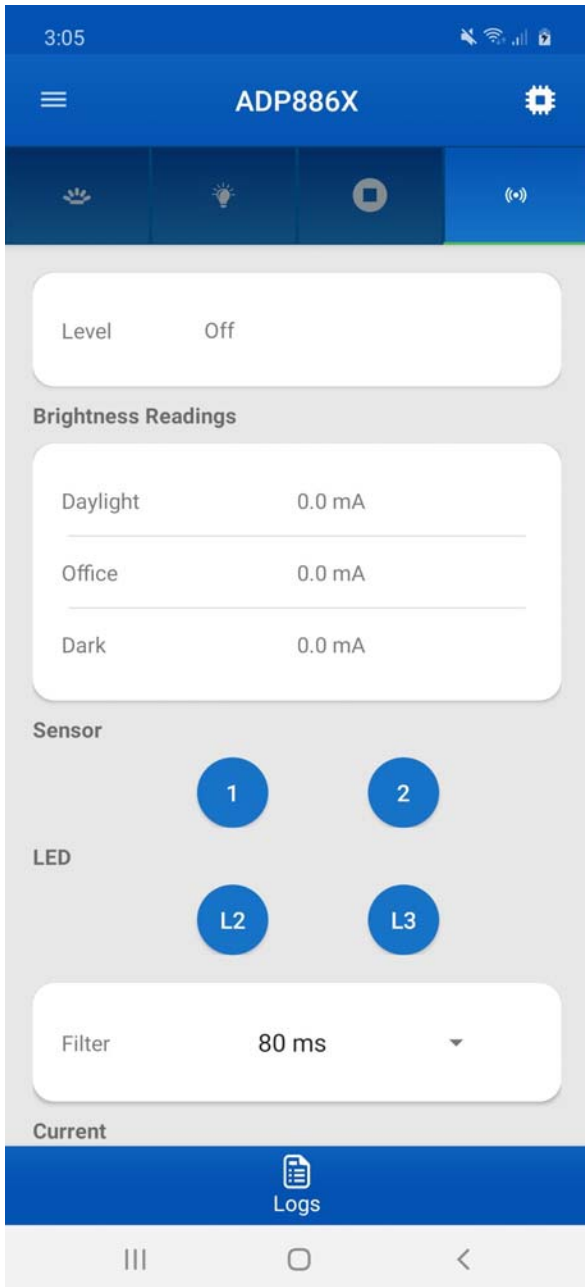
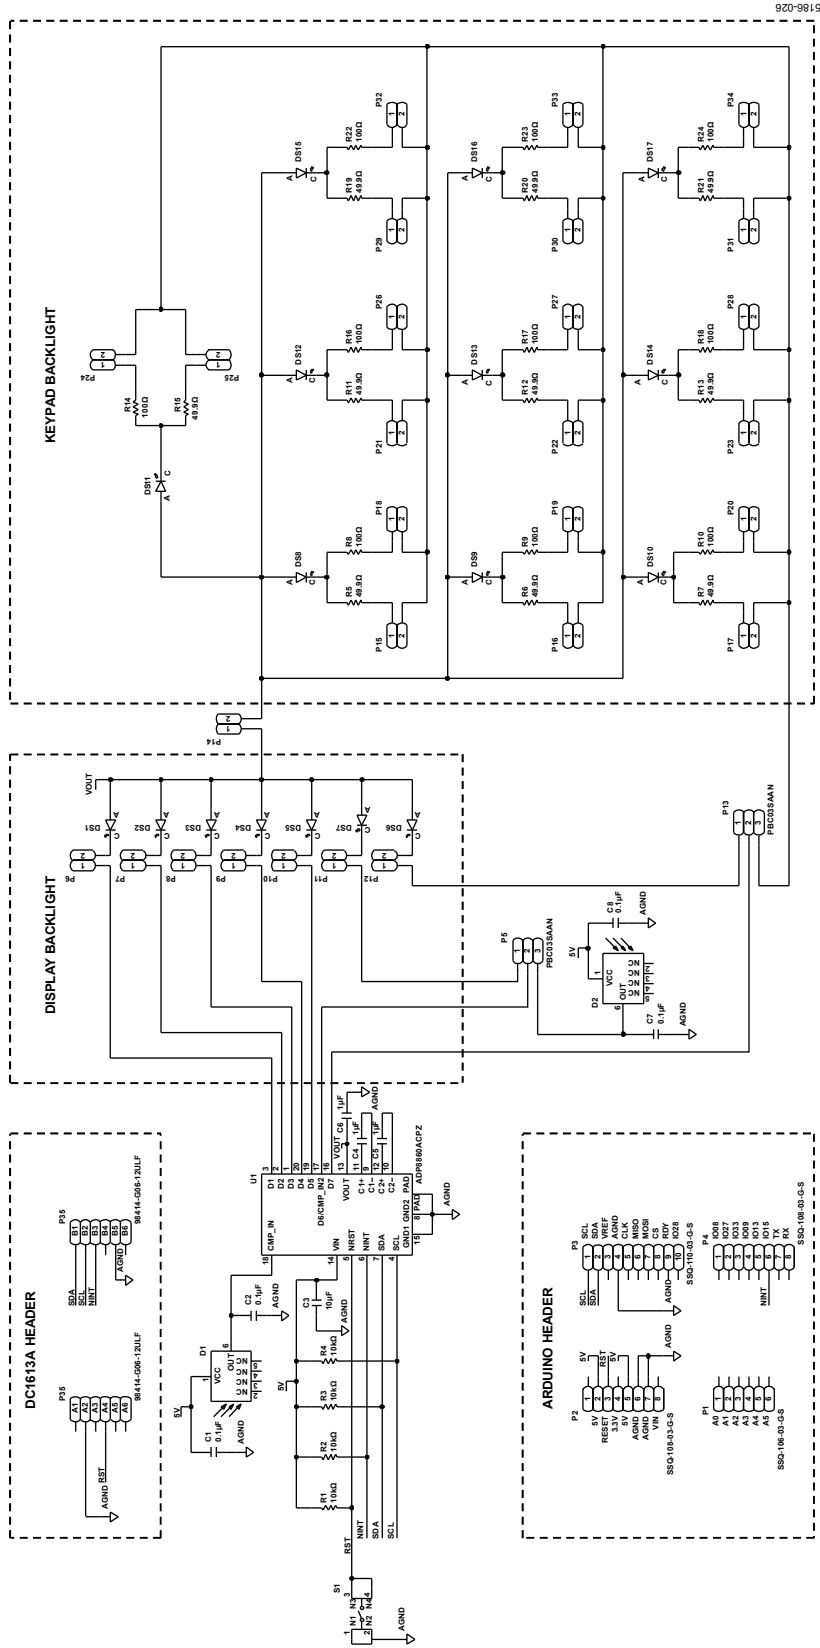
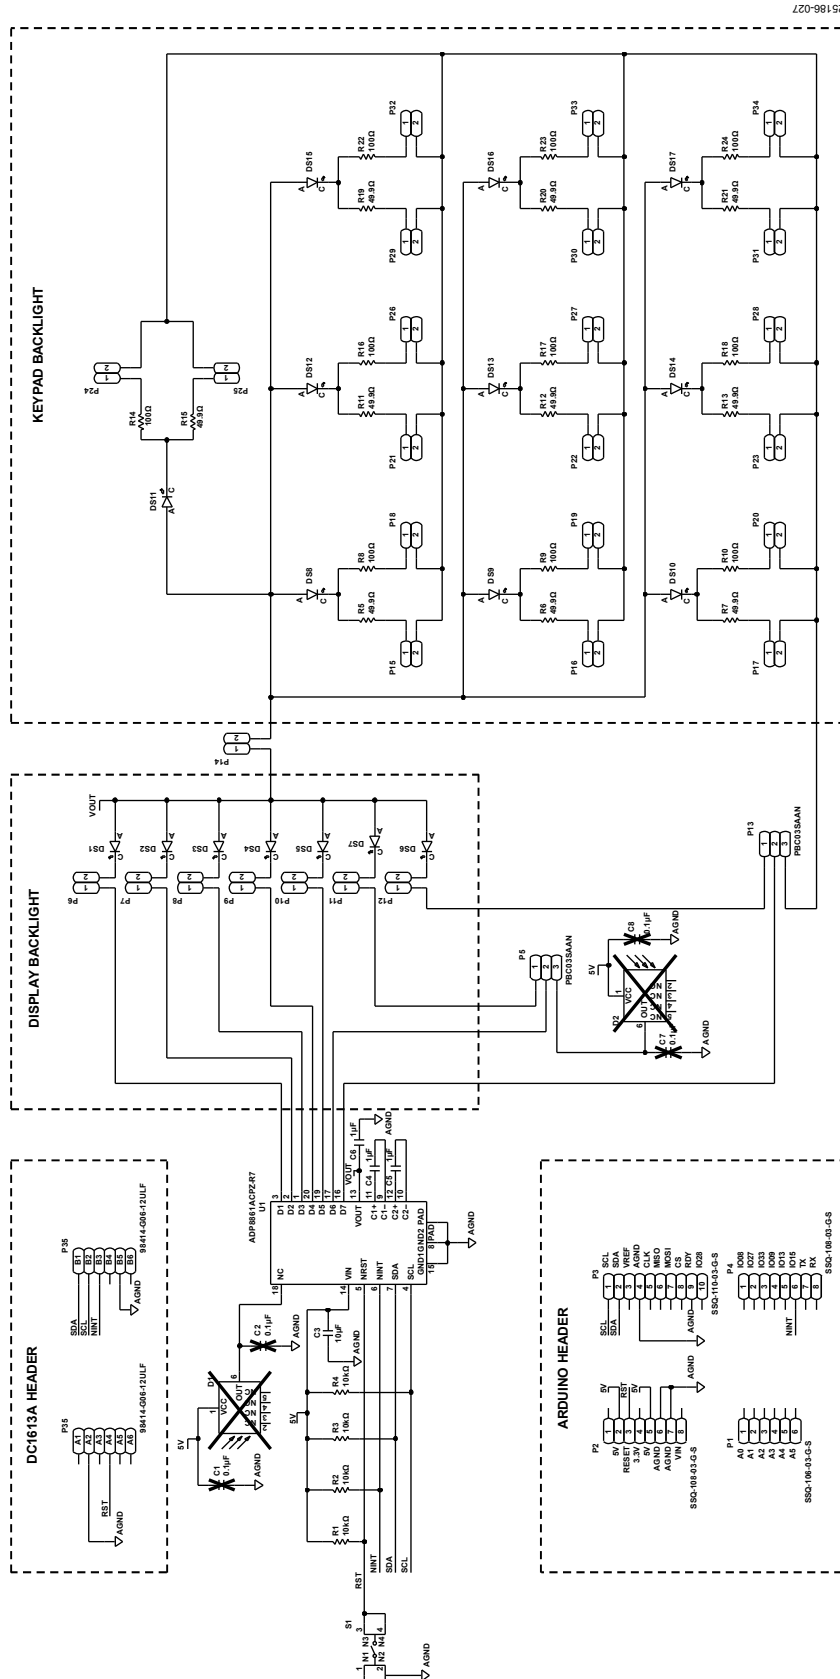

Figure 23. **A.L.S.** Tab for the Android App
Figure 25. ADP8860SHIELD-EVALZ Schematic
Figure 26. ADP8861SHIELD-EVALZ Schematic
- In the **A.L.S.** main tab for Windows, users can enable the photosensor and comparator with a threshold and hysteresis current configuration (see Figure 14). Note that this feature is only available for the **ADP8860**. To utilize the secondary photo sensor, move **P5** to the other position (see Figure 25 and Figure 26).
- In the **A.L.S.** main tab, users can enable the photosensor and comparator with a threshold and hysteresis current configuration (see Figure 23). Note that this feature is only available for the **ADP8860**. To utilize the secondary photo sensor, move **P5** to the other position (see Figure 25 and Figure 26).